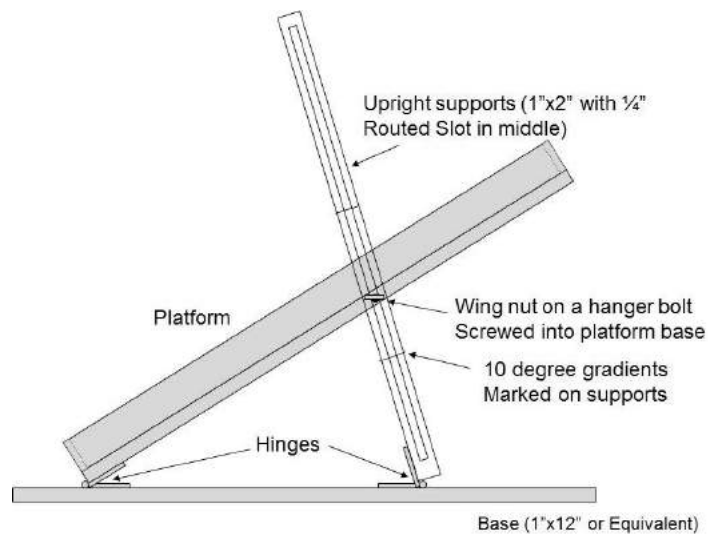
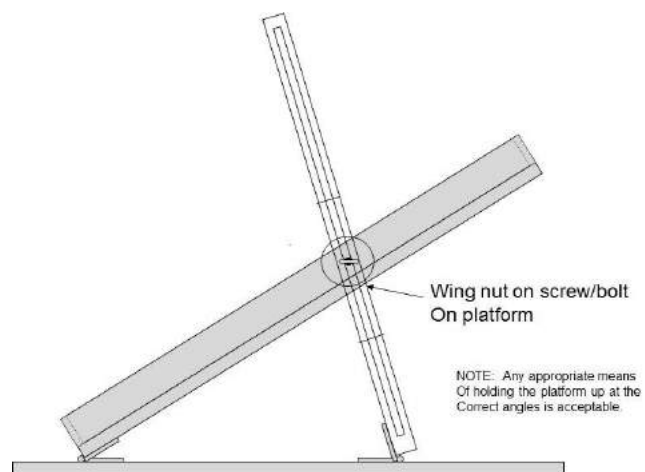
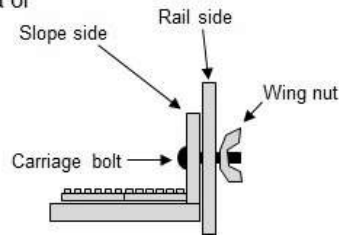

Figure 5 - Slope Climbing Assembly - side view
Figure 6 - Slope Climber diagram showing location of alternative bolt location
Figure 7 - Bolt system that Maine Robotics uses
- iii) For construction guide, (see Figure 5, Figure 6 and Figure 7)
- (1) Clamp
- (2) Grapple
- (3) Or use opposing force on the walls to gain support from the walls of the climbing platform